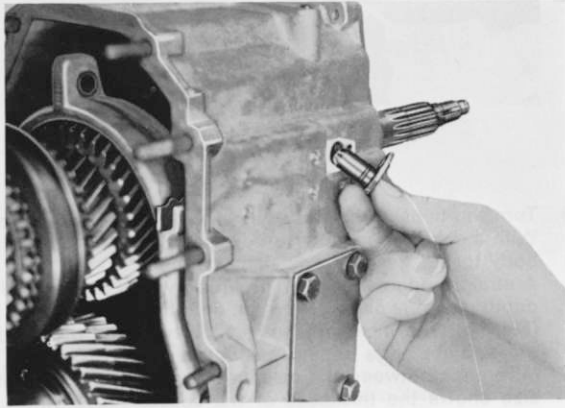

Fig. 46
1. Place 1 off O-ring (605) into the grooves of each of the pivot pins (604 and 610). Put 2 pivot pins (604) through the rear housing bores into the bores of the 1st and reverse gear selector fork (613) (begin with pivot pin which lies on the detent pad side as shown in Fig. 46). Tighten screws (602) with spring washers (603). Push pivot pins (610) into selector fork 2nd and 3rd gear (609) and fasten with the screws (602) and spring washers (underneath). Tighten torque screws (602) to 0,8 to 1,2 kpm.